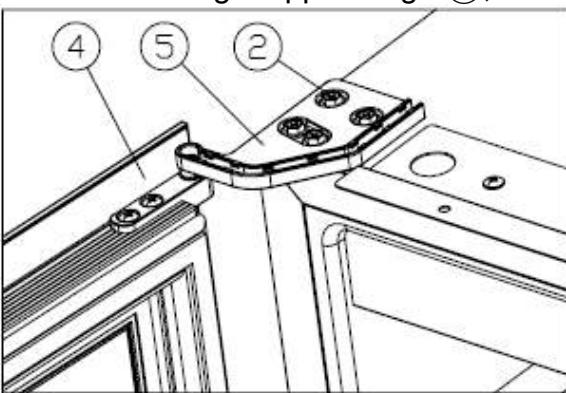

Figure 6
- ✧ Turn the door ④ 180 degrees, and insert the right lower hinge ⑤, screw tight M5*16 screws ②.[Figure 6] Door reversing is finished.